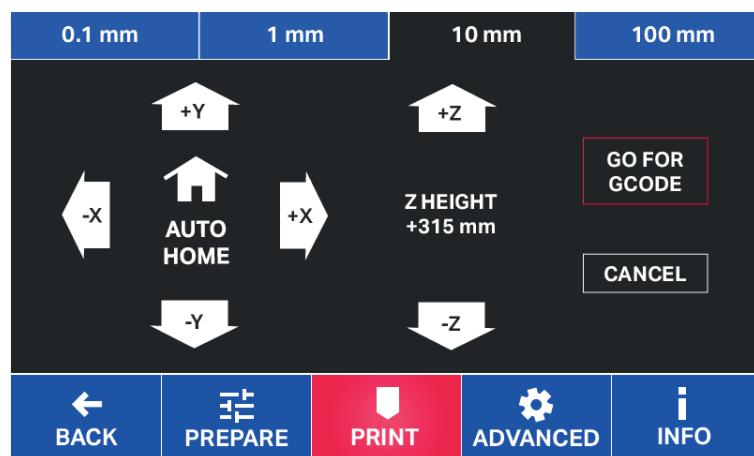

Fig. 8.4 - Free Zeta System
3. Select the "Free Zeta system" command from the PREPARE menu (fig. 8.4)